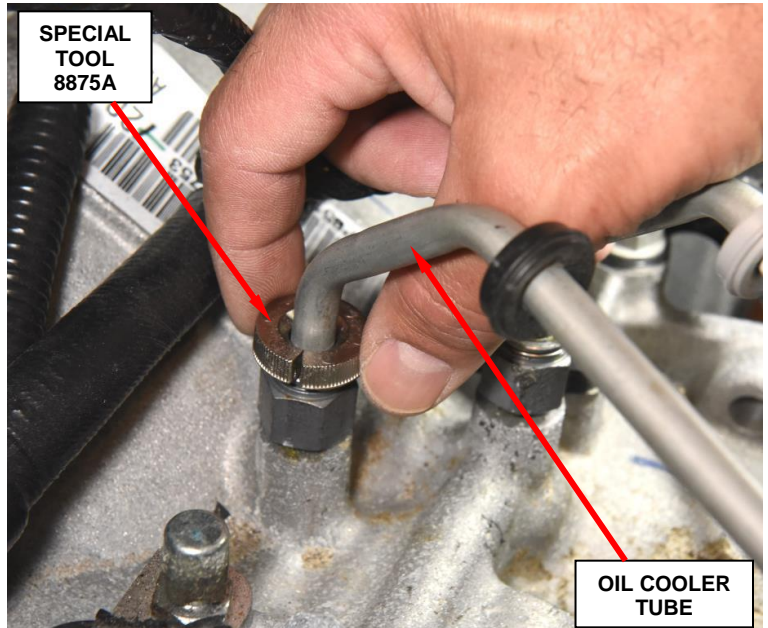

Figure 3 – Oil Cooler Tubes
8. Using special tool 8875A, disconnect the transaxle cooler tubes from the transaxle (Figure 3).